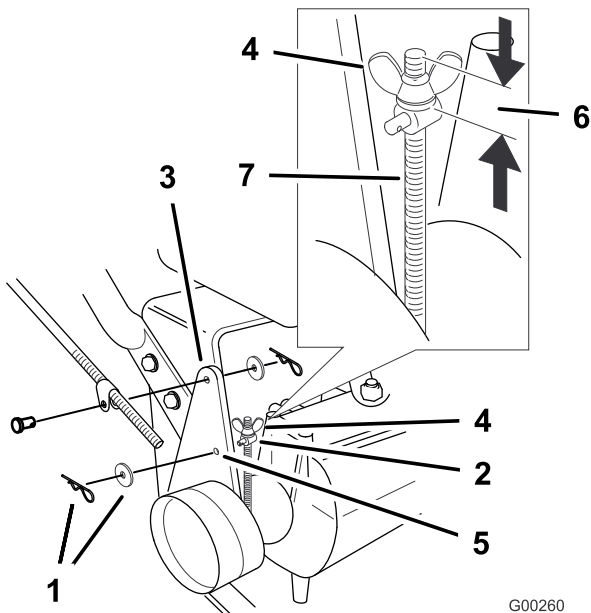

Figure 41
Note: For the initial adjustment, adjust the wing nut until it is 32 mm (1-1/4 inches) from the top of the rod (Figure 41).
6. To adjust the brake, remove the hair pin cotter and washer from the brake lever and trunnion (Figure 41).
9. Install the trunnion into hole F (Figure 41). Tighten the wing nut.
10. Secure trunnion to brake lever with washer and hair pin cotter (Figure 41).